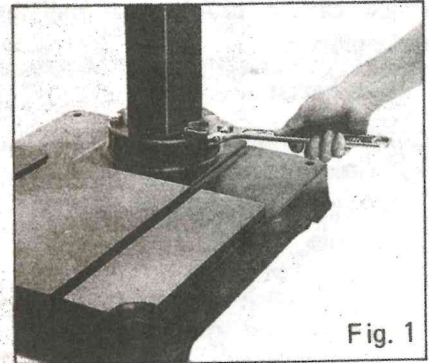

Fig. 1
- * Secure the column with four bolts and washers provided. Fig. 1